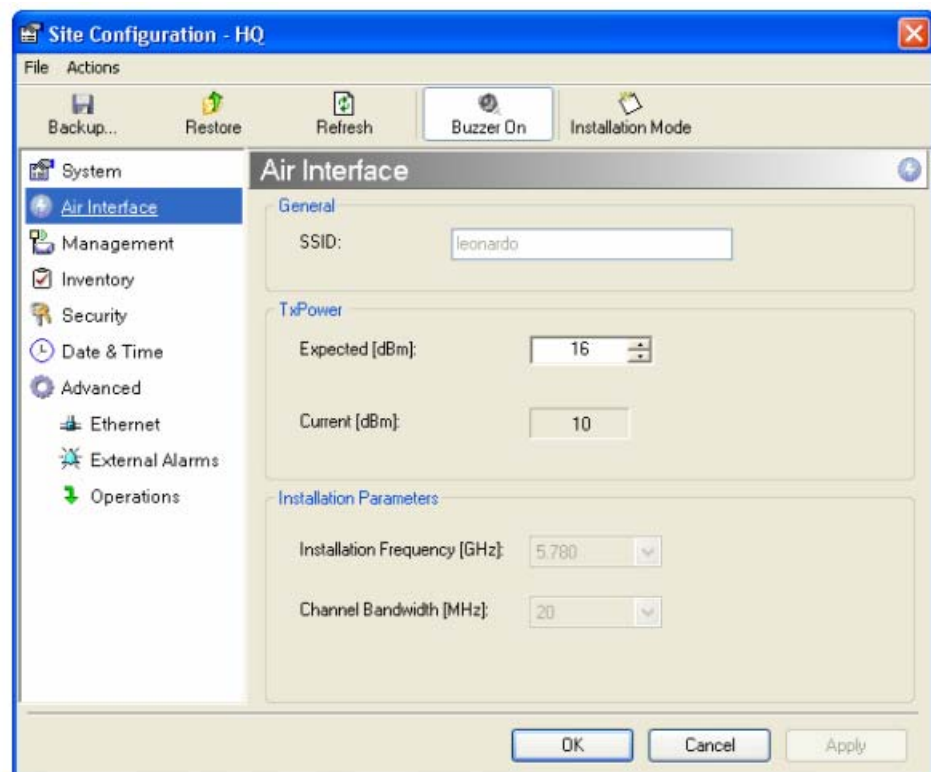

Figure 4-11. Changing the Transmit Power
3. Select Air Interface. (See Figure 4-11)